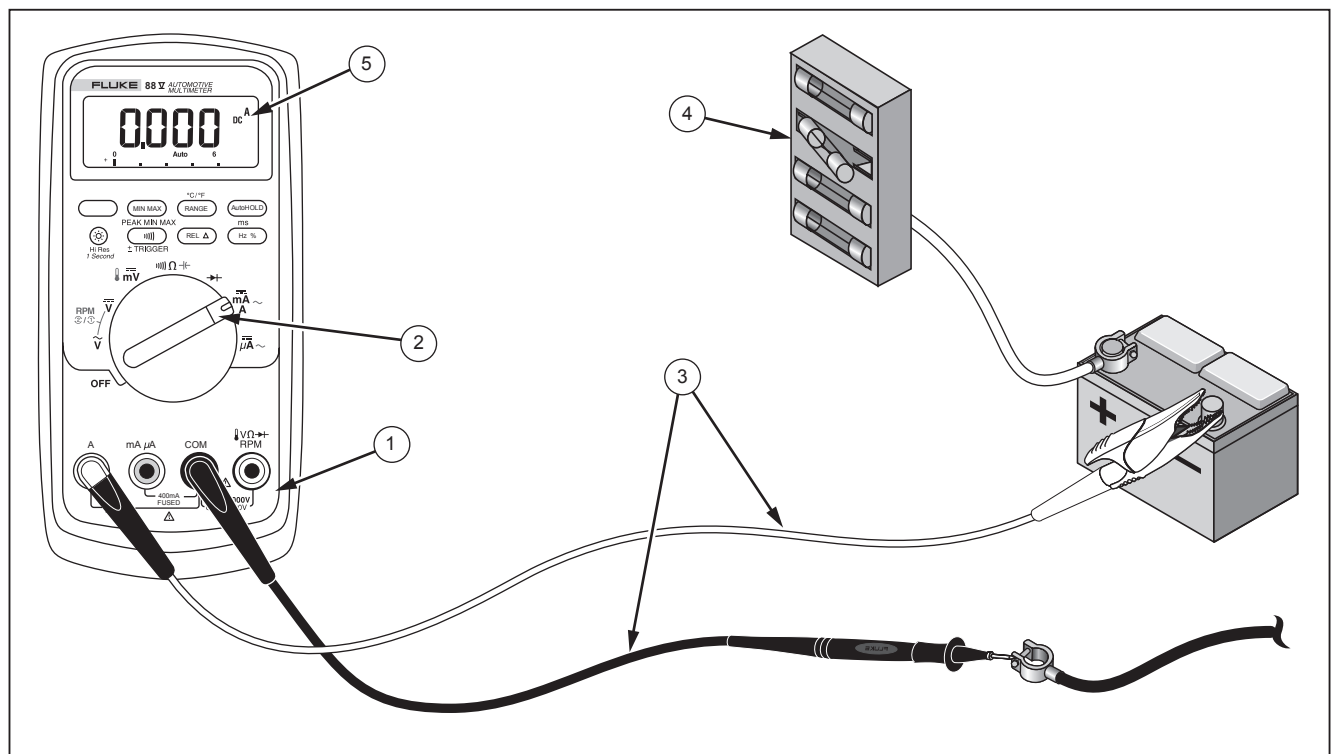

Figure 17. Isolating Circuit Causing Current Drain
1. Insert the test leads in the input terminals shown in Figure 17.